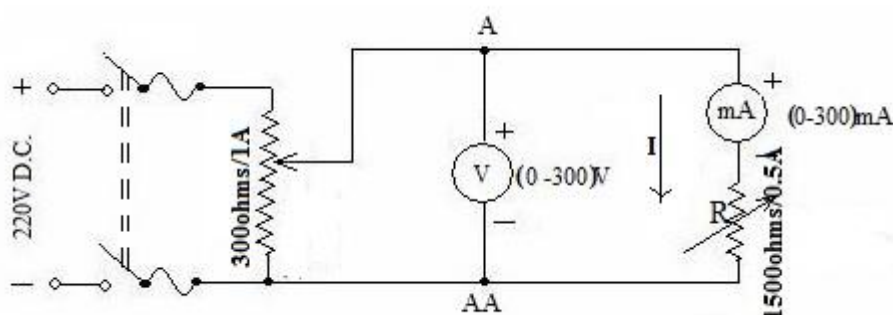

Fig.1
Let, R be the external variable resistor connected in series with the milliammeter shown in Fig.1. The internal resistance of the milliammeter is (say) R_a . If E be the voltage applied across the nodes A & AA and I be the current through the combination of the milliammeter and R then we can write:
1. Connect the circuit as shown in figure 1.